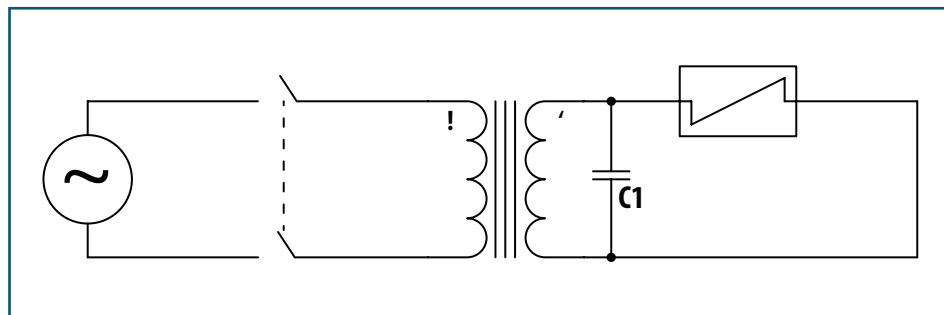

Figure 5: Test Circuit with Capacitor Added
- 1) Add a capacitor across the transformer secondary (see figure 5); and/or